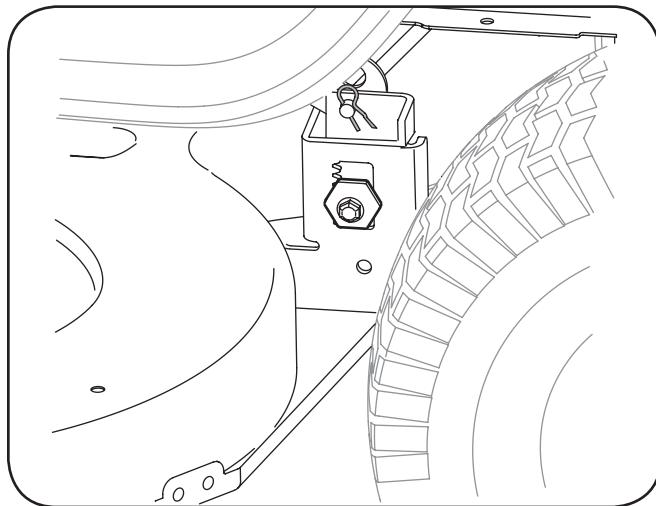

Figure 7-2 - 38" Deck
5. **On 38" Decks:** Looking at the cutting deck from the left side of the tractor, locate the bow tie pin that secures the deck support rod on the rear left side of the deck. See Fig. 7-2. Remove the bow tie cotter pin that secures the deck support rod and carefully remove the deck support from the deck lift arm. Repeat on the tractors right side.